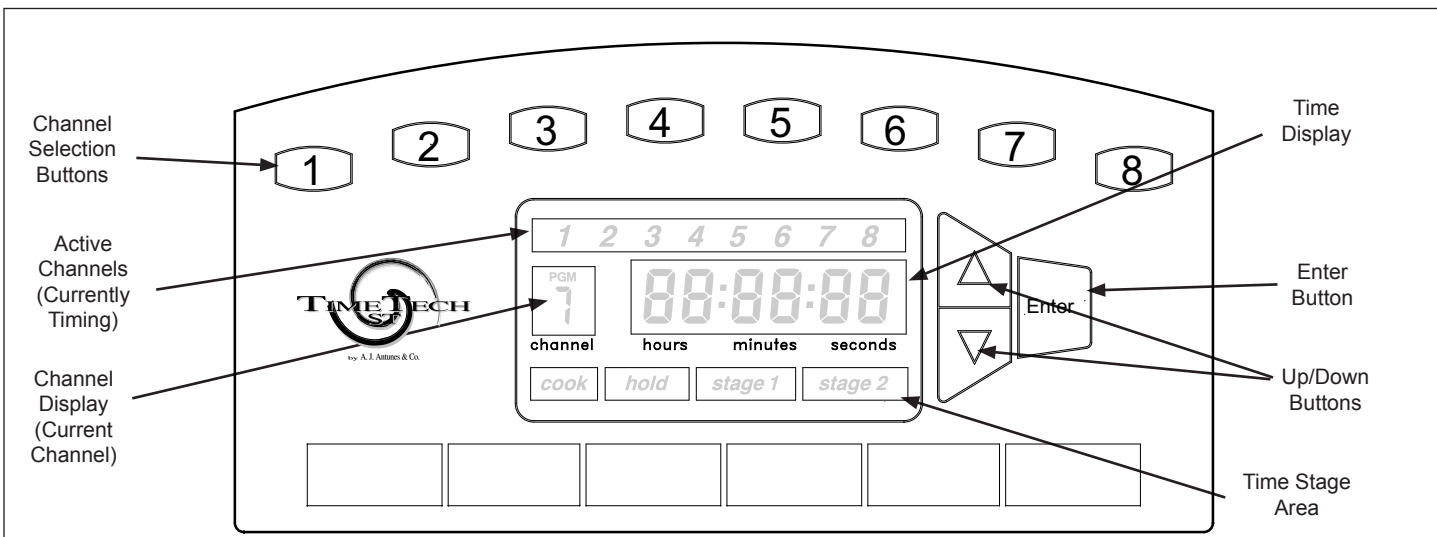

Figure 1. TimeTech Timer (8 Channel Timer Shown)
Press and hold the desired Channel Selection button (Figure 1) for 3 (three) seconds. The letters **PGM** appear above channel number in the Channel Display area to indicate that the Timer is in Program Mode.
4. At the end of a timing cycle, the unit sounds three beeps five times and then beeps two times every one second. Also, the channel number flashes in the Active Channels area (Figure1) until the Channel Selection button for that channel is pressed. Then, the display will move to the next channel to finish.
This section describes the Timer display and the various functions available on the Timer. Refer to Figure 1 to identify the different locations of these features.